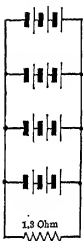

FIG. 122. Four parallel rows of 3 cells in series.
(4) Four parallel rows of 3 cells in series: Fig. 122.